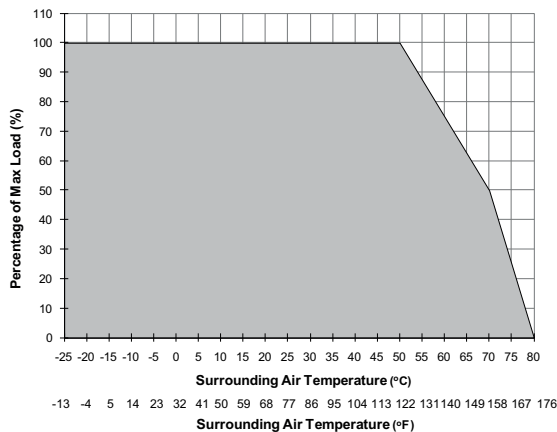

Figure 6
5.4. Thermal behavior (Fig. 6)
Ambient operating temperature	-25°C to +80°C [-13°F to 176°F] (Refer to Fig. 6)